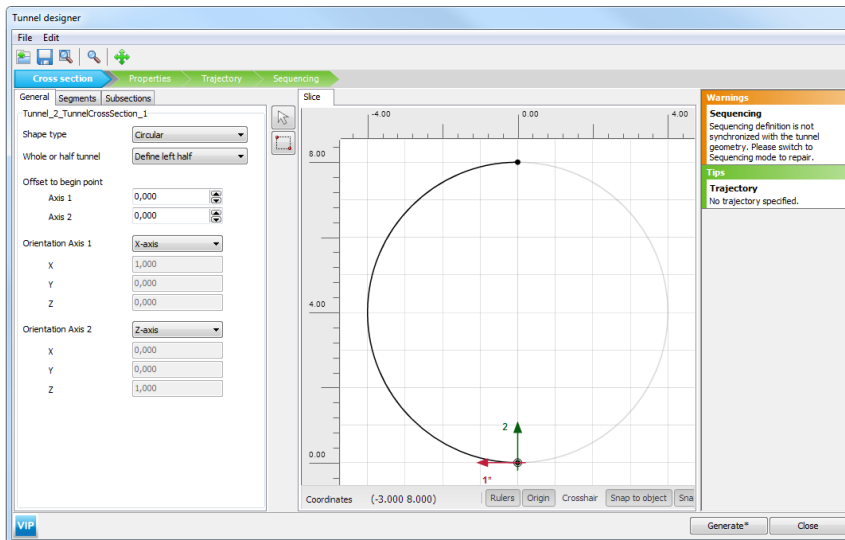

Figure 6.4 General tabsheet of the Tunnel designer
- The left half of the tunnel is generated in this example. Select the *Define left half* option in the drop-down menu for the *Whole or half tunnel*. A screenshot of the *General* tabsheet after the proper assignment is given in Figure 6.4.